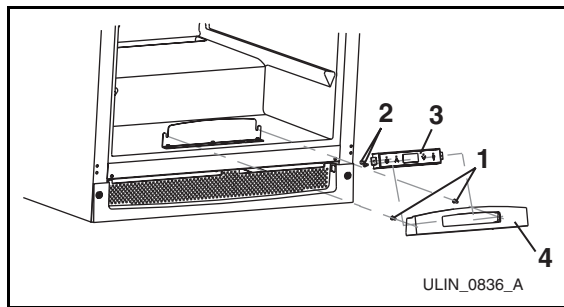

Figure 18
1. Loosen the two screws holding the controller to the mounting bracket (**Figure 18, 1**).
2. Lift the controller housing (**Figure 18, 4**) and then rotate forward to expose the wiring harness on the back.
3. Disconnect the wiring harness from the controller (**Figure 18, 3**).
4. Remove the two screws holding in the controller housing (**Figure 18, 2**), then remove from wood.